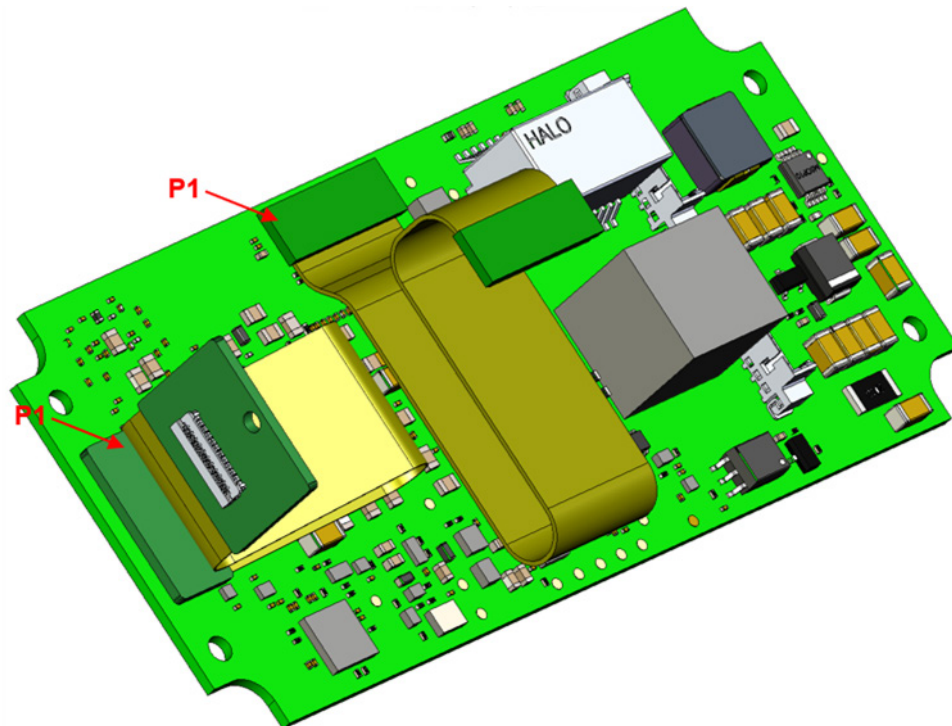

Figure 8 – Connecting Interposer Cables to FRAMOS D4 Visual Processing Board
**Caution:** Care should be taken when connecting RGB and Depth Interposer cables to FRAMOS D4 Visual Processing Board, as the wrong connection, position or orientation, can cause permanent damage to the device. The correct cables position and orientation are shown in the Figure 8.